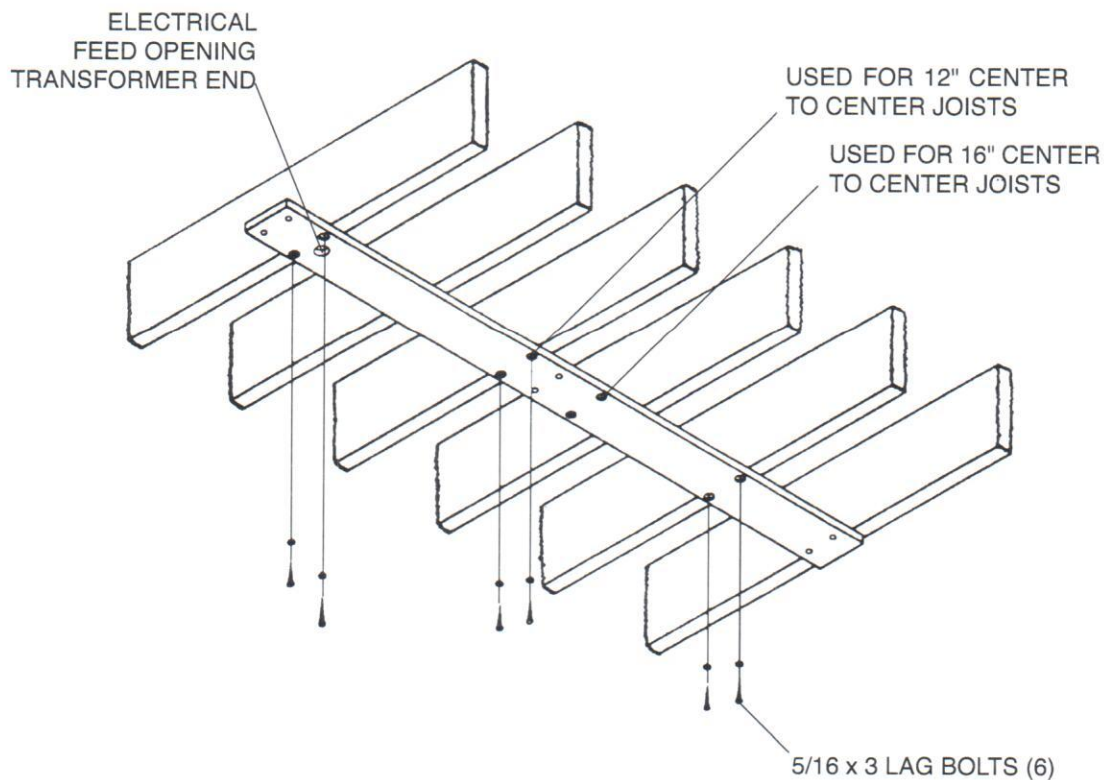

FIGURE 1 (1.1.1.)
1.1.1. In conventional ceilings with **joists perpendicular** to center line of light, attach pallet by **at least 6 - 5/16 x 3"** lag screws. Suitable holes are provided in pallet for most installations, utilizing 16" or 12" cc ceiling joists. For other spacings or locations, additional holes can be cut in pallet. (SEE FIGURE 1.)